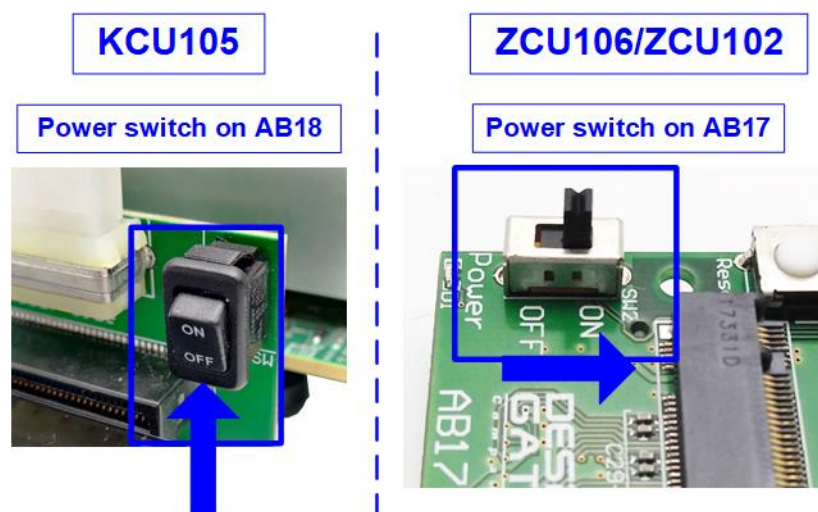

Figure 2-7 Turn on power switch on FPGA and adapter board
- 6) Turn on power switch on FPGA development board, and then turn on power switch on the adapter board, as shown in Figure 2-7.